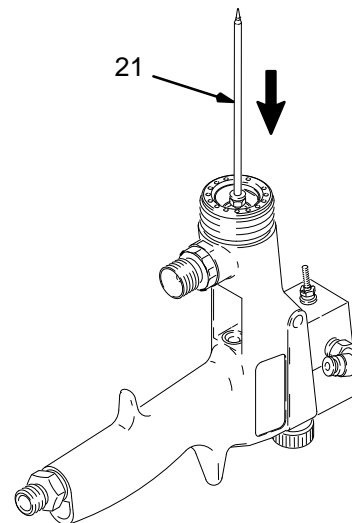

Fig. 32 02759
9. Push the three piece packing assembly (39) out the back of the gun with the threaded end of the fluid needle (21). See Fig. 32.
Do not use excessive force to push out the packing assembly (39) or the u-cup seal (33) as this may bend the fluid needle (21). Refer to Fig. 32 and 33. If packings are difficult to remove, use a 3/16 in. plastic rod to push them out.